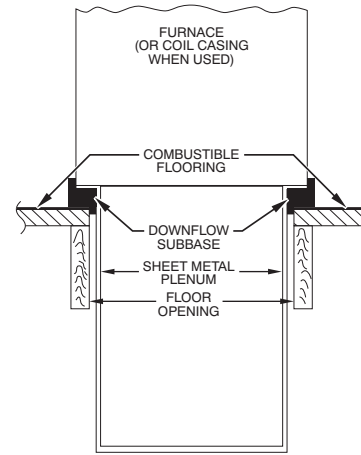
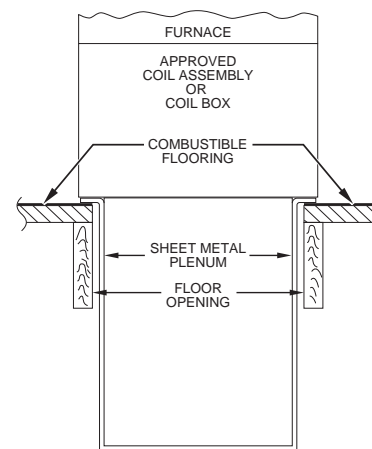

Fig. 11 – Furnace, Plenum, and Subbase Installed on a Combustible Floor
Fig. 12 – Furnace, Plenum, and Coil Assembly or Coil Box Installed on a Combustible Floor
4. If downflow subbase is used, install as, see Fig. 11. If coil model numbers END4X, ENW4X or coil casing model number NAEA are used, install as, see Fig. 12.